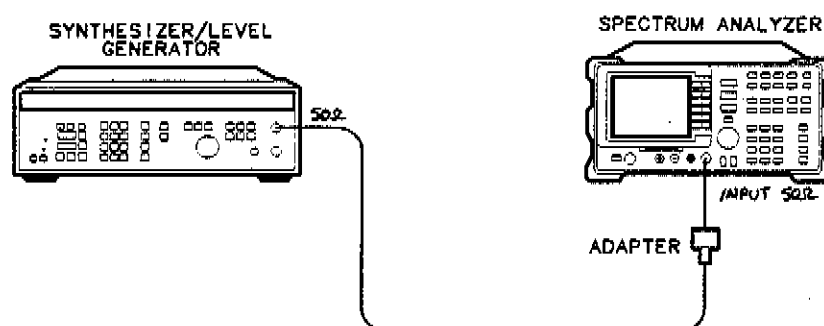

Figure 1-17. Frequency Response Test Setup (<50 MHz)
17. Using a cable, connect the synthesizer/level generator directly to the INPUT 50 Ω . Refer to Figure 1-17.